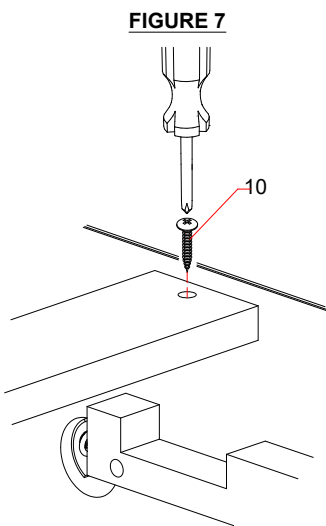

FIGURE 7
10. Set the bed slats (E) into the loft. Secure each slat by using screws (10) provided. See FIGURE 7.